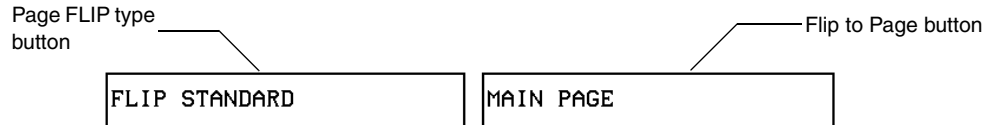

FIG. 14 Page FLIP Type button
1. Press the PAGE FLIP Type button (FIG. 14) in the Button Properties page to open the Page Flip Type menu.
3. Press the FLIP to Page button (FIG. 14) to open a list of all the saved touch panel pages. If the desired page is not present in the menu, check to verify the page has been saved.